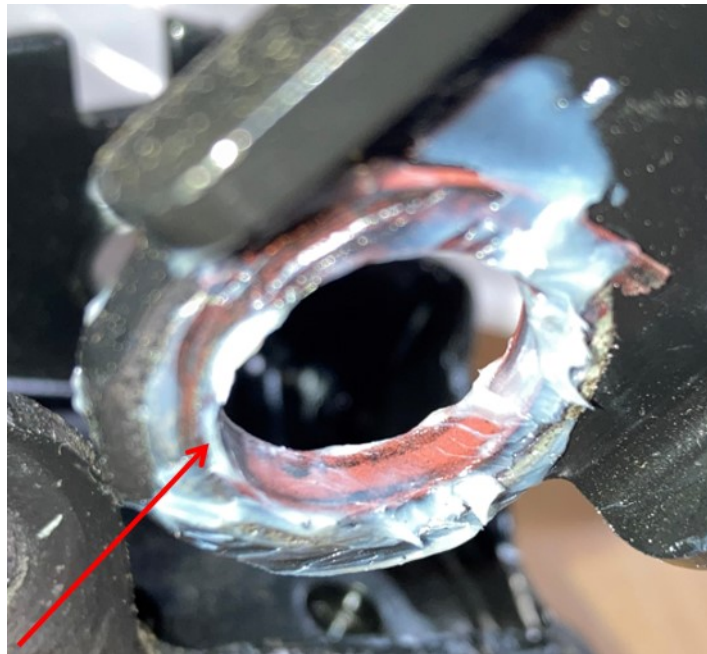

Fig. 6
8. Apply grease to all surfaces of red bushing inside bracket. This applies to all bushings where the wrong track bolt is present. (Fig. 6)
14. Apply grease to all surfaces of red bushing inside bracket. This applies to all bushings where the wrong track bolt is present. (Fig. 6)